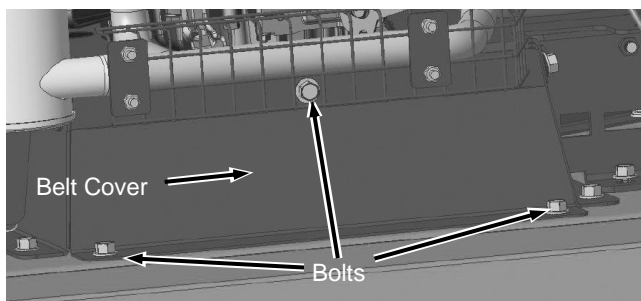

Figure 58
11. At the rear of the machine, use a 9/16 in Wrench to remove the three Bolts securing Belt Cover and set Belt Cover aside (**Figure 58**).
10. Reinstall Belt Cover at the rear of machine (**Figure 58**).